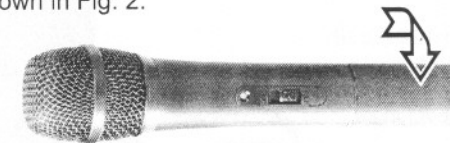

Fig. 2.
2. To access to the battery compartment, loosen the battery pack in counter clockwise direction, as shown in Fig. 2.